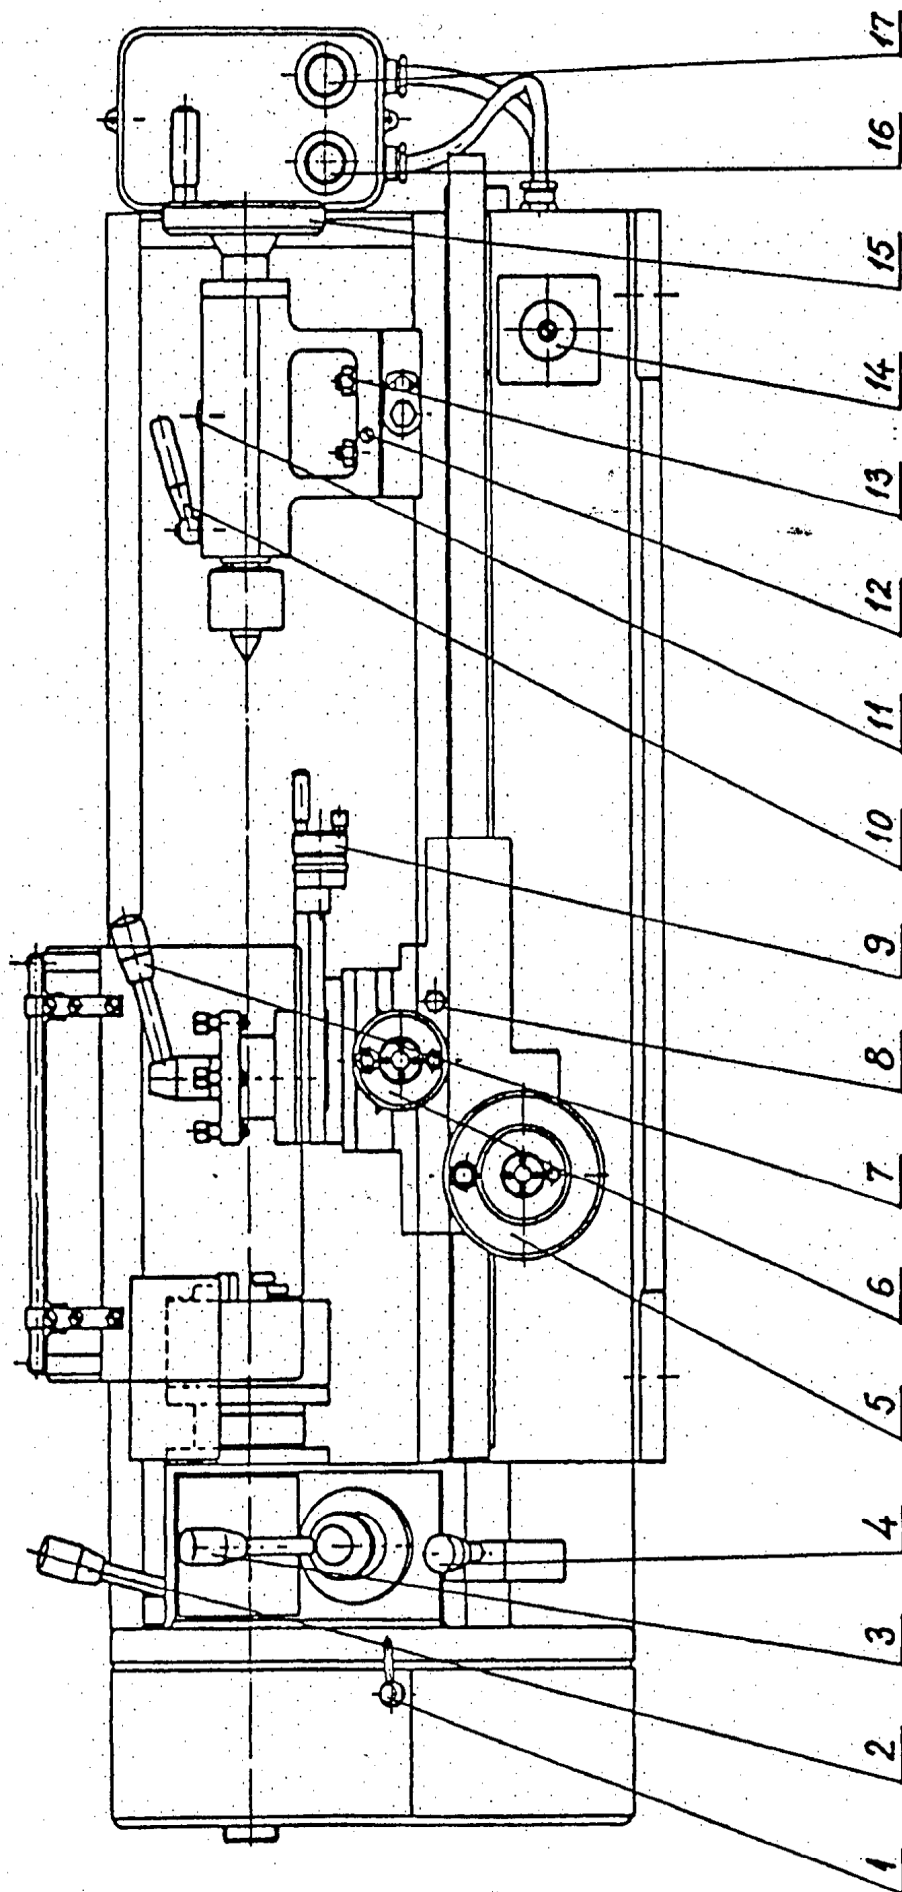

Figure 17 Lubrication Diagram
1. Apply the oil gun to all the oiling points (Figure 17) before starting work each day.